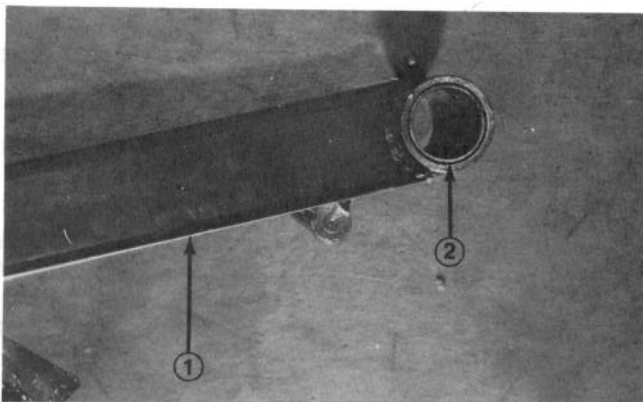

Figure 48
8. Using pin punch and hammer, drive both bushings out of axle tube (Fig. 48). Clean inside of axle tube to remove dirt and foreign matter.
9. Notice groove on inside of new bushing. When it is installed, open end of groove must face to the outside of rear axle tube. Apply grease to inside and outside of the new bushings. Using an arbor press, drive bushings into the top and bottom of the axle tube. Bushings must be flush with axle tube (Fig. 48).